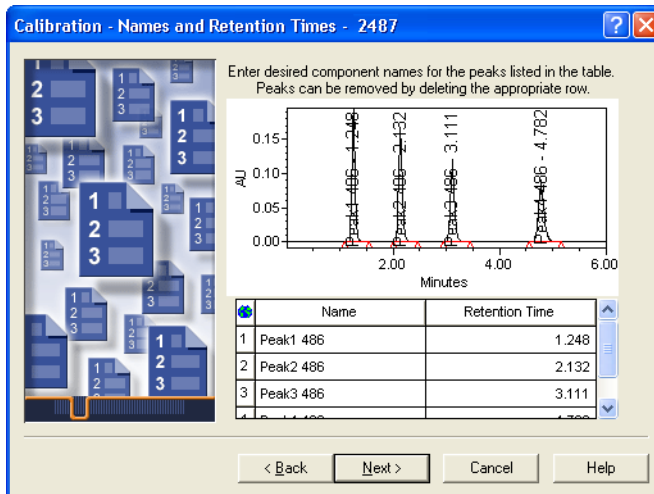

Figure 4-27 Processing Method Wizard, Calibration–Names and Retention Times Page
14. Click **Yes** to add channel names to the Channel fields for new components. The Calibration–Names and Retention Times page appears (Figure 4-27).